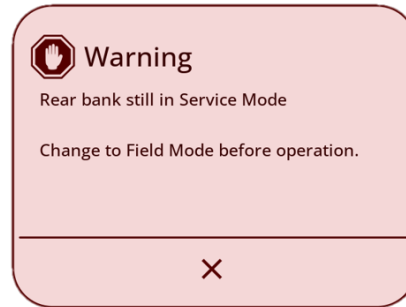

Figure 3.27 Rear Rank Status Warning
**NOTE:** In case you attempt to lower openers while in Service mode a warning would appear (Figure 3.27). In order to avoid that make sure to put the operation mode in the Field.